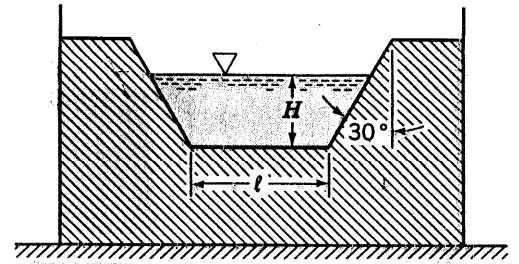

FIGURE P3.91
3.91 A weir (see Video V10.7) of trapezoidal cross section is used to measure the flowrate in a channel as shown in Fig. P3.91. If the flowrate is Q_0 when $H = \ell/2$, what flowrate is expected when $H = \ell$?